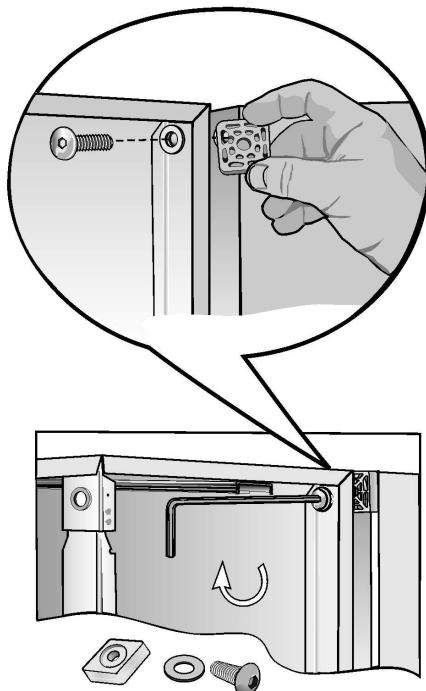

Figure 10
4. Using the 6 mm Allen (Hex) wrench, install the socket head cap screws and flat washers (see Figure 10).
Use the wrench to **HAND TIGHTEN** all screws (see Figure 10).